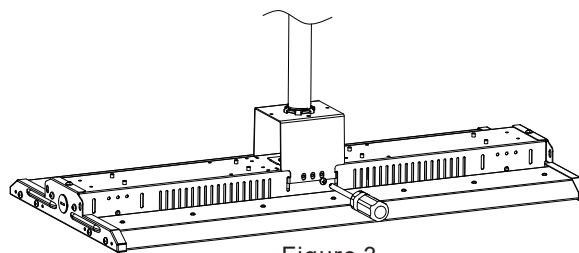

Figure 3
Step 2. Attach bracket to fixture (Figure 3).